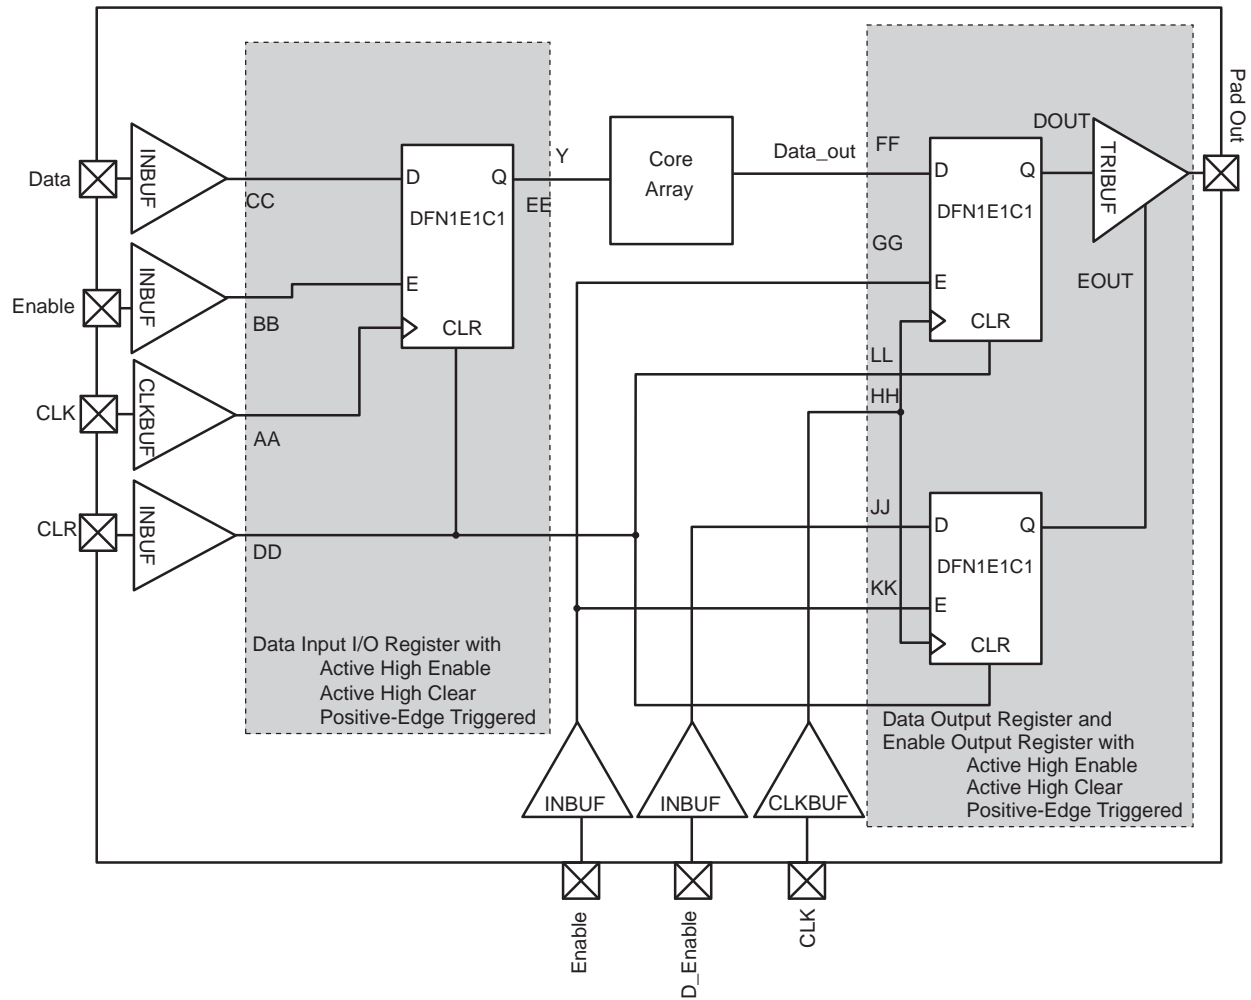

Figure 2-25 • Timing Model of the Registered I/O Buffers with Synchronous Enable and Asynchronous Clear
* See Figure 2-25 on page 2-55 for more information.